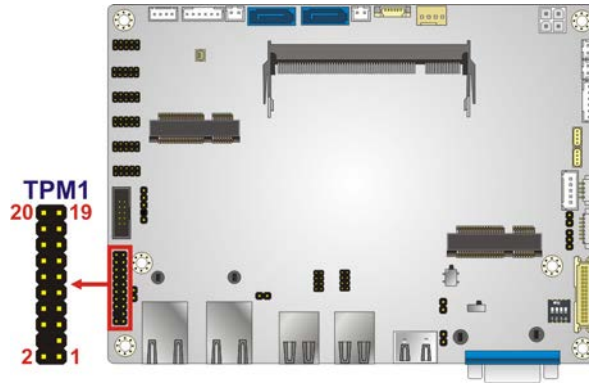

Figure 3-29: TPM Connector Location
- CN Location:** See **Figure 3-29**